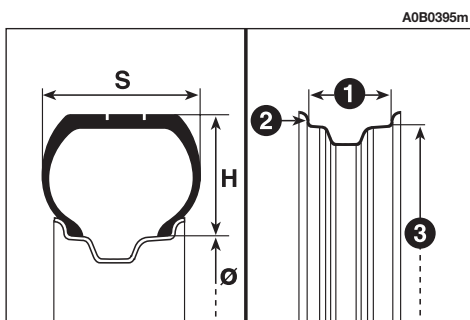

fig. 5
**CORRECT TYRE READING (fig. 5)**
Below are the instructions necessary to know the meaning of the code stamped on the rim, as shown in **fig. 5**.